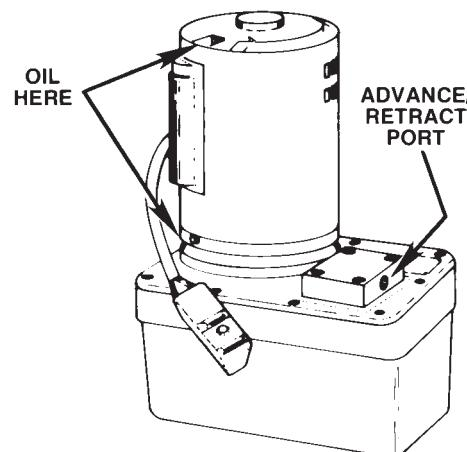

FIGURE 4
- Periodically lubricate the electric pump motor (2 places) as shown in Figure 4.